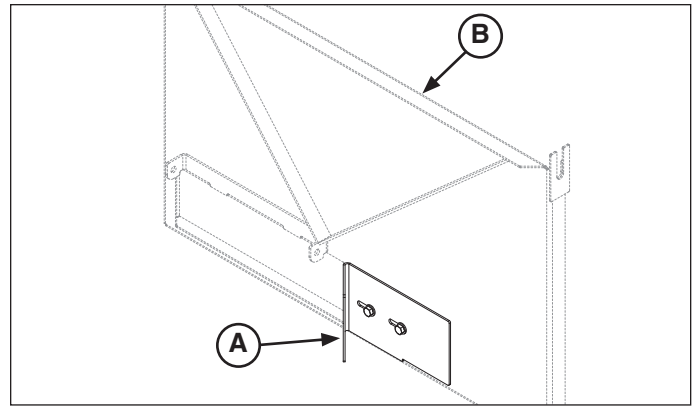

Figure 6. Adjusting the Block Off Plate
1. With the bagger mount installed, slide the block off plate (**A, Figure 6**) toward the mower deck, covering any opening between the bagger mount and the deck.
3. Remove the collector bag (**A, Figure 6**) from the bagger mount (**B**).